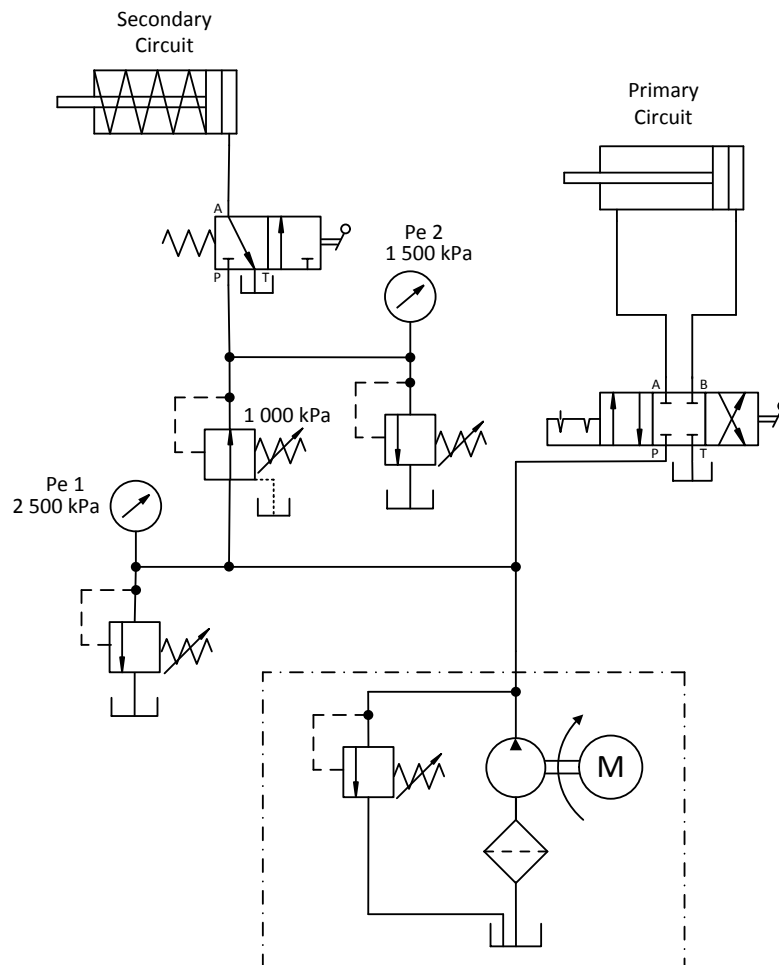

FIG 1.
- B. The main branch is known as the primary circuit and the other branch is called the secondary circuit. (Fig 1)